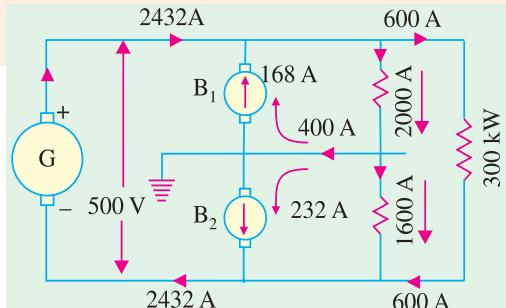

Fig. 40.44
**Solution.** The connections are shown in Fig. 40.44.